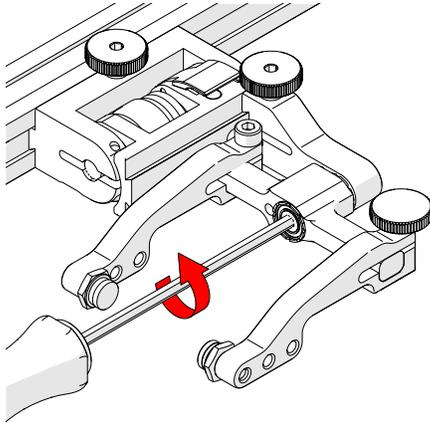

Fig. 115 - Unscrew yoke pivot screw
1. Unscrew the yoke from the swing arm (Fig. 115).